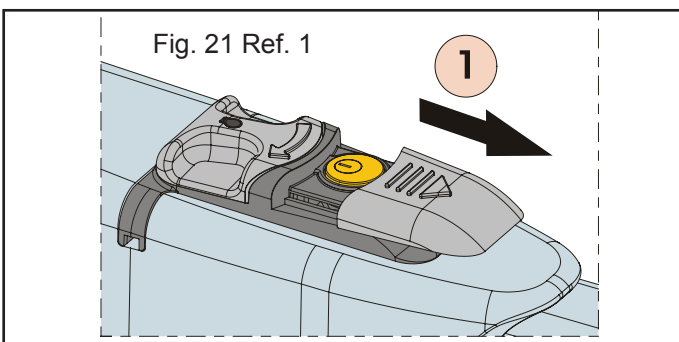

Fig. 21 Ref. 1
3. Insert the key and turn it 90°, Fig. 21, Ref. 2.
4. To release the operator, turn the control lever 180° in the direction indicated by the arrow on the release system, Fig. 21, Ref. 3.